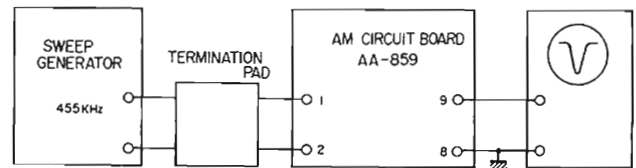

Fig. 12
- a) Connect the Sweep Generator output lead to test point (1) and (2) of the AM-IF circuit board (AA-859). Connect the oscilloscope input lead to test point (9) and (8). (Fig. 12).